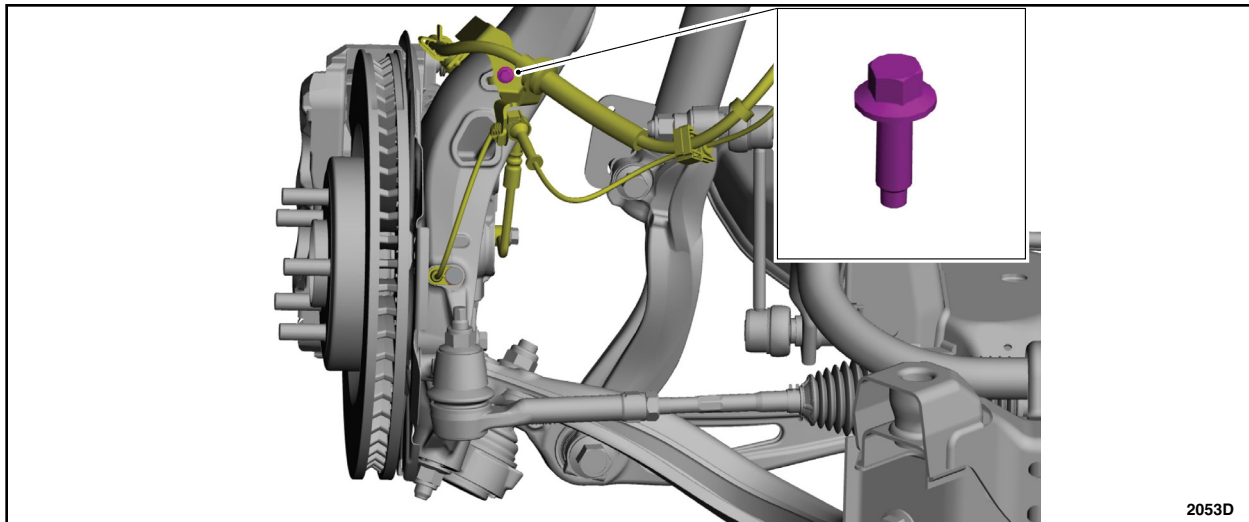

FIGURE 4
9. Remove the brake hose bracket bolt and position aside the brake hose. See Figure 4.